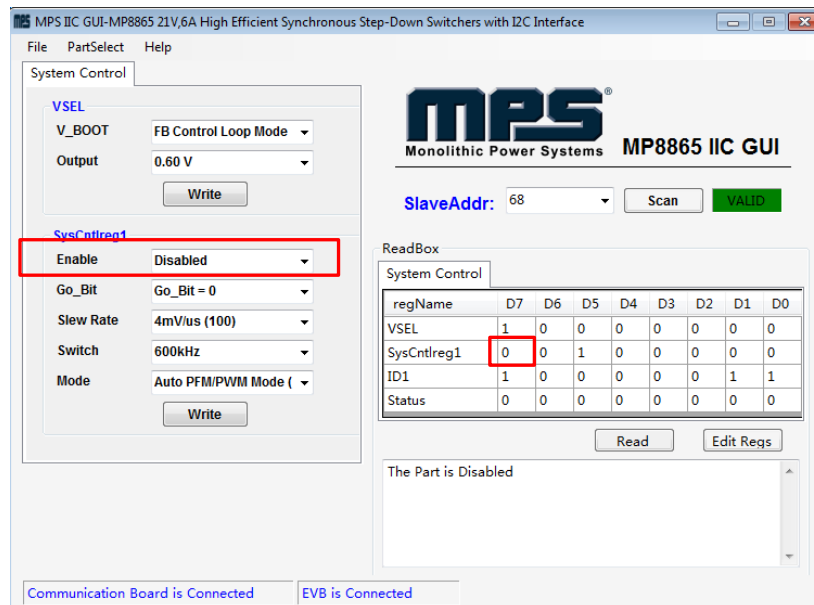

Figure 10: Refer to Datasheet to Translate 0’s and 1’s
- Click the **Read All** button to update values. The changed information of the item will appear on the right side (see Figure 10).